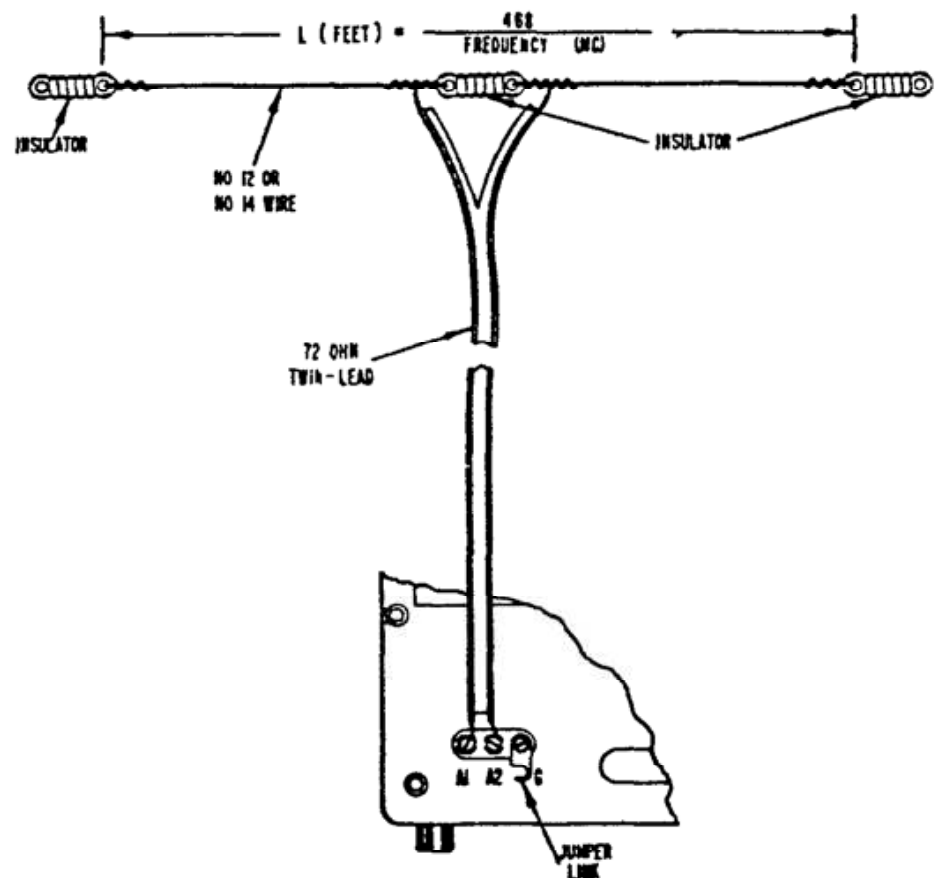

Fig. 3. Doublet Antenna using Twin-Lead Transmission Line
**Half-Wave Doublet Antenna.** For top performance, especially on the shortwave and amateur bands, the use of a half-wave doublet or other type of antenna employing a 52 to 600 ohm transmission line is recommended. A typical doublet antenna installation is shown in Fig. 3. The doublet antenna should be cut to the proper length for the most used frequency or band of frequencies. The overall length in feet of a doublet antenna is determined by the following formula: